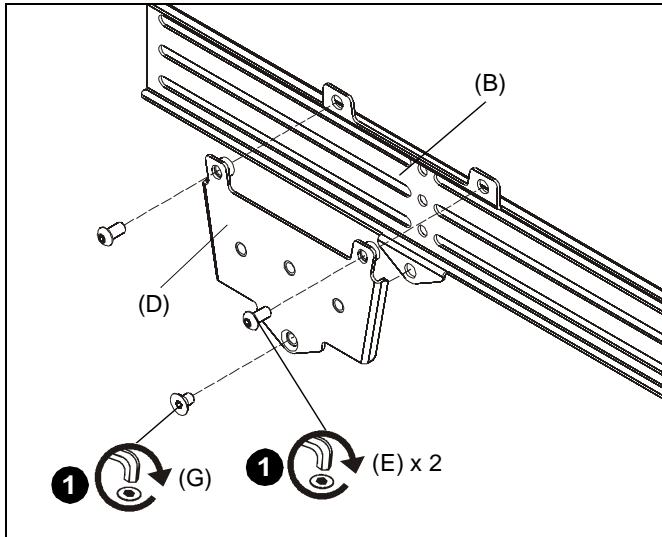

Figure 1
1. Use two 1/4-20 x 3/8" button head cap screws (E) and one 1/4-20 x 3/8" flat head cap screw (G) to attach short extension bracket (D) to center speaker bracket (B). (See Figure 1)